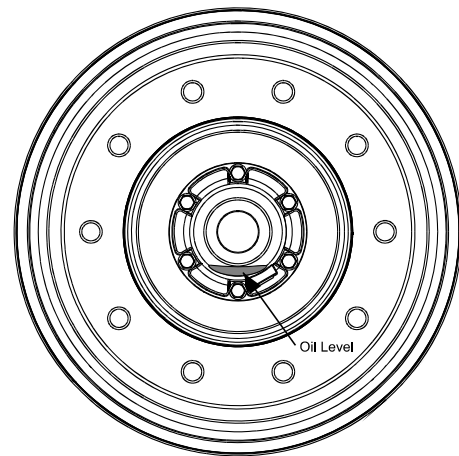

Figure 12 - Wheel Bearing Oil Level
18. Check oil level through the hubcap window. (**Figure 12**). If level is below the “add” level line, then fill with recommended oil until “full” level is achieved. Add oil slowly since the heavy weight oil will settle slowly in the hub. (Note: The hubcap window can only be cleaned with mild soap and water. Aromatic solvents should not be used, as they will impair the transparency of the window.)